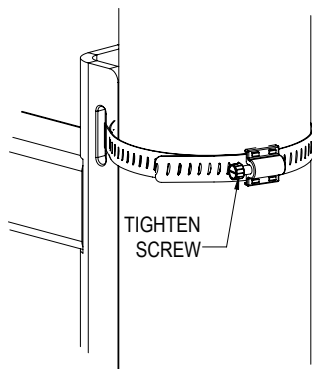

Figure 3
**Step 3:** Position the location of the PM-24-6DOWN-G on the pole and then fully tighten screw using screw driver or a wrench to desired tension and complete the banding operation. Recommended torque is 30-40 in/lb (*Figure 3*).